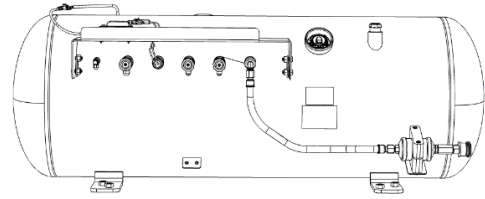

Figure 2:
5. Connect other end of Fuel Transfer Hose (*not shown*) to Fill Receptacle of Fuel Recovery Tank. *Figure 2*